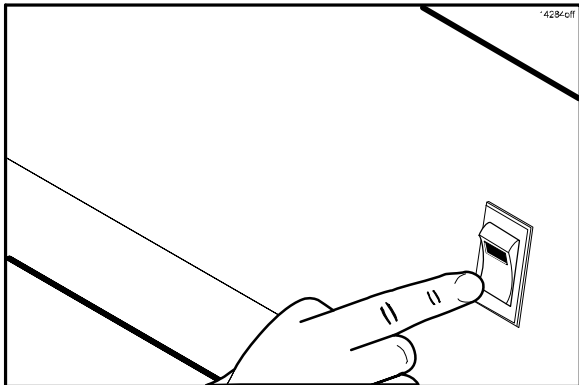

Figure 103
48. Place the fan interlock switch in the OFF position. (See Figure 103.)